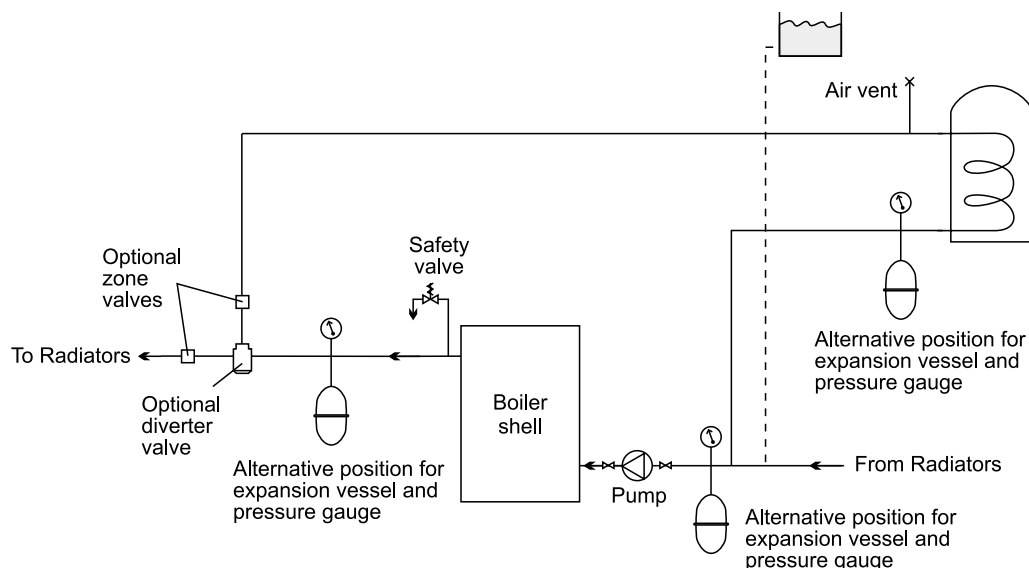

Fig. 15 - Sealed system
3.13.3 Sealed system - (See Fig. 15)
- 3 The expansion vessel can be fitted in either the return or flow pipework in any of the recommended positions as shown in Fig. 15. To reduce the operating temperature of the expansion vessel diaphragm, position it below the pipe to which it is connected. The expansion vessel may be positioned away from the system, providing the connecting pipe is not less than 13 mm diameter.